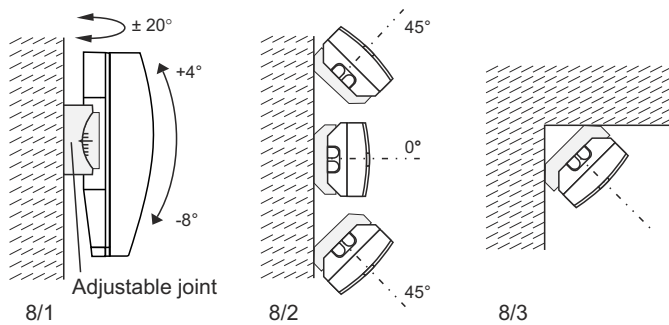

Fig. 8
- Mounting directly on the wall (Fig. 8/1)
- Horizontal at a 45° angle to the left or right (Fig. 8/2)
- Corner mounting (Fig. 8/3)